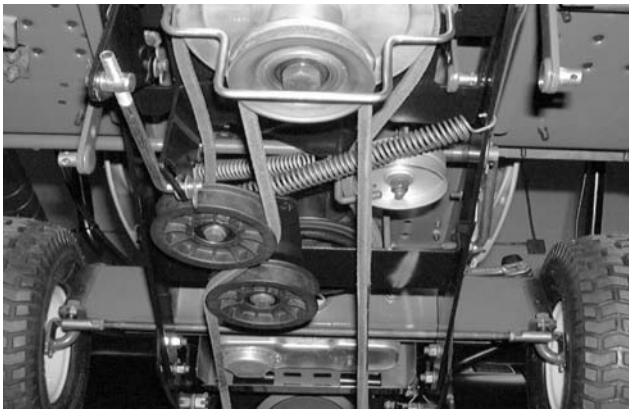

Figure 12-89.
The flat side of the belt goes against the idler pulley. See Figure 12-89.
39. Reinstall all belt keepers and belt guard. See Figure 12-89.